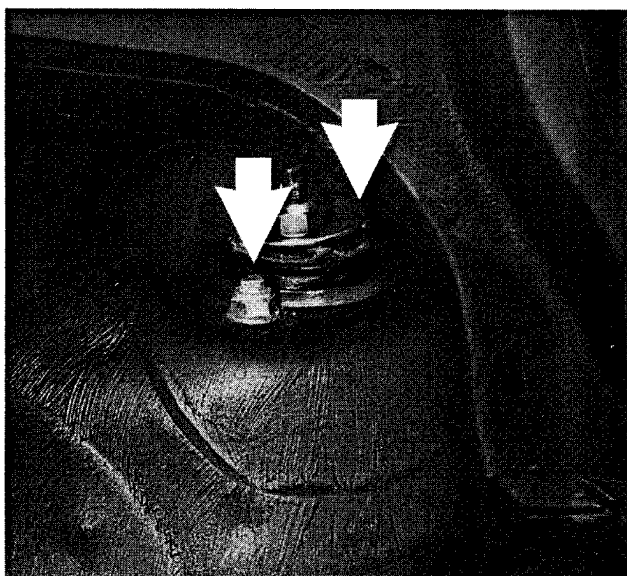

Fig. 3. Rear shock upper mounting nuts (arrows) in luggage compartment. Liner has been peeled back.
3. Pry out luggage compartment liner retaining clips and peel back liner to gain access to upper shock absorber mounting nuts. See Fig. 3.